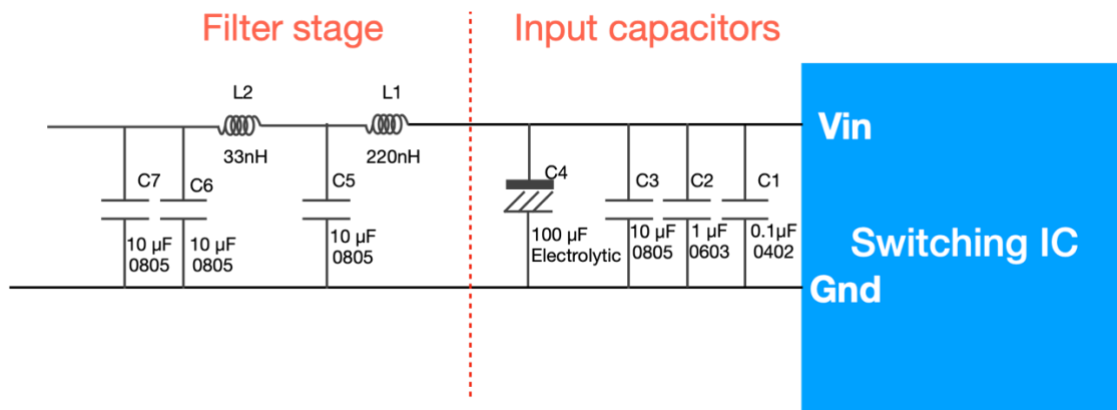

Figure 1 The input stage of a typical integrated buck converter
The circuit shown in Figure 1 is given to demonstrate the point. The input stage of a typical buck converter using in integrated switching IC is shown. On the input side, the filter stage is separated from the input capacitors by including the red dashed line. Note that there can never be a strict separation line between the filter and the input capacitors as the input capacitors also provide a low impedance path to noise, so they work nicely with the filter. But here the two are separated to make the point.
The filter stage is designed as a multi-stage filter which consists of two inductors and a few ceramic capacitors. The red line shown in Figure 1 indicates that there must be a distance between the filter and the input capacitors. This is to avoid field coupling and make the input filter stage more effective. On a PCB level, this is often achieved through the following steps:
3. The connection between the filter stage and the input capacitors should always be a high impedance path such as an inductor (L1 shown in Figure 1).